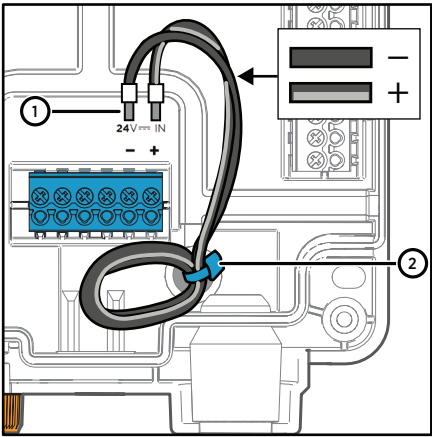

Figure 9 INDIGOPOWER24VSP mains power supply wiring inside the transmitter enclosure
3. Pull the wires inside the transmitter and connect the + and - wires to the screw terminals as shown in Figure 9 \(page 22\).